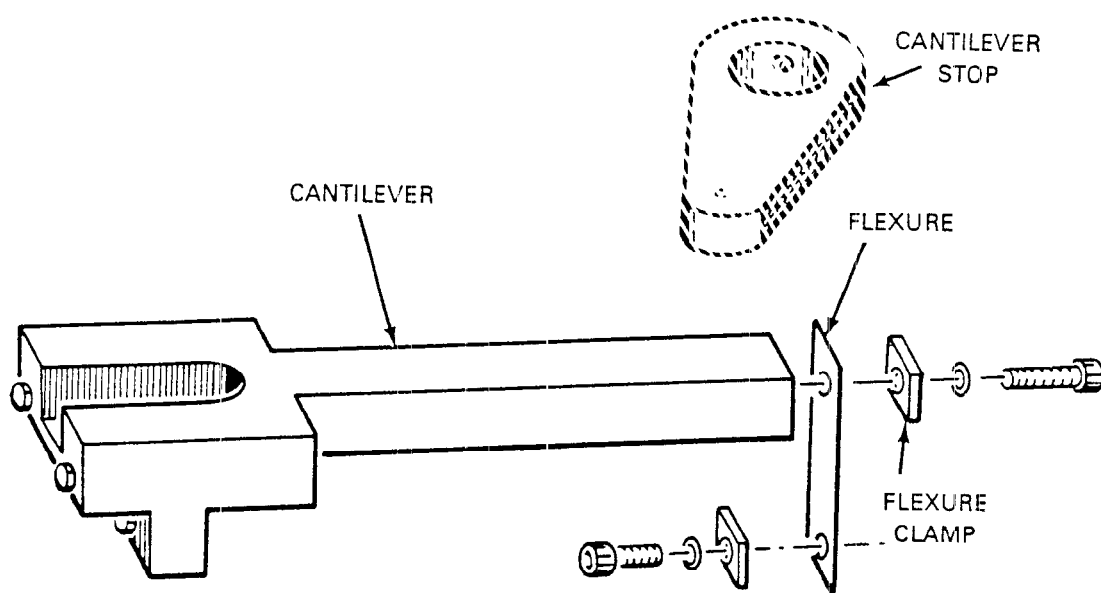

Figure 3-3 Flexure Detachment For Horizontal Operation
- c. Referring to figure 3-3, unfasten each of the three flexures from the cantilever assembly by removing the screw and washer and the flexure clamp. Press down on the mass end of the cantilever until all tension is removed from the flexure. Carefully work the flexure off the locating pin. Let each cantilever rise to rest against its cantilever stop. Store the flexure clamps and screws in the tapped hole provided in the top of each cantilever stop. The flexures, when free of the locating pin, should flex back out of the way of the cantilevers. If any one of the three flexures touches any part of the cantilever assemblies, gently bend it back over a large radius until it will clear when released.